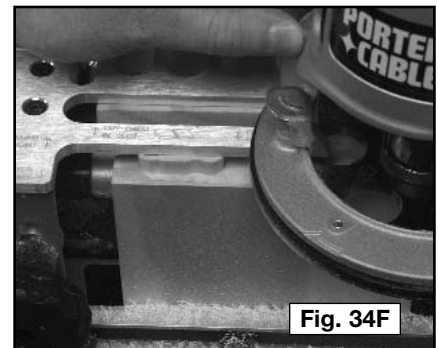

Fig. 34F
**Step 8** - Make a cut from left to right removing the remainder of the excess material (Fig. 34F).